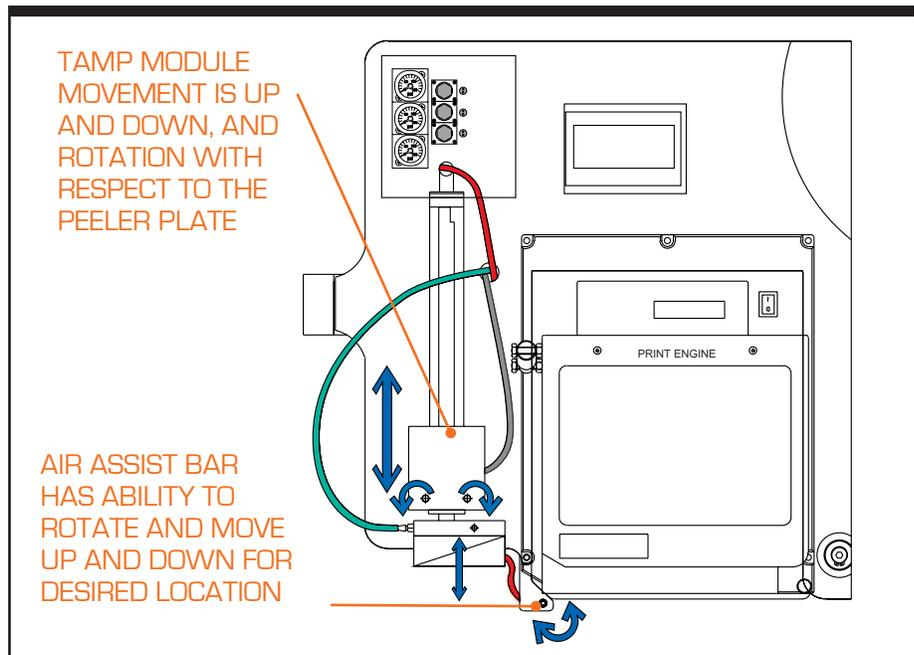

Figure 5-3. Tamp Assembly Hose Attachments and Movement
Step 2. Attach Red Air Hose. Remove the cover and attach the read air hose (refer to Figure 5-3 on the next page) to the top of the air cylinder (extend). Plumb the hose through the hole in the housing into the "A" port of the solenoid valve marked "Tamp".
- Step 3. Attach Black Air Hose.** Attach the black air hose to the bottom of the air cylinder (retract). Plumb the hose through the supplied hole in the housing and into the "B" port of the solenoid valve marked "Tamp" (refer to Figure 5-3).